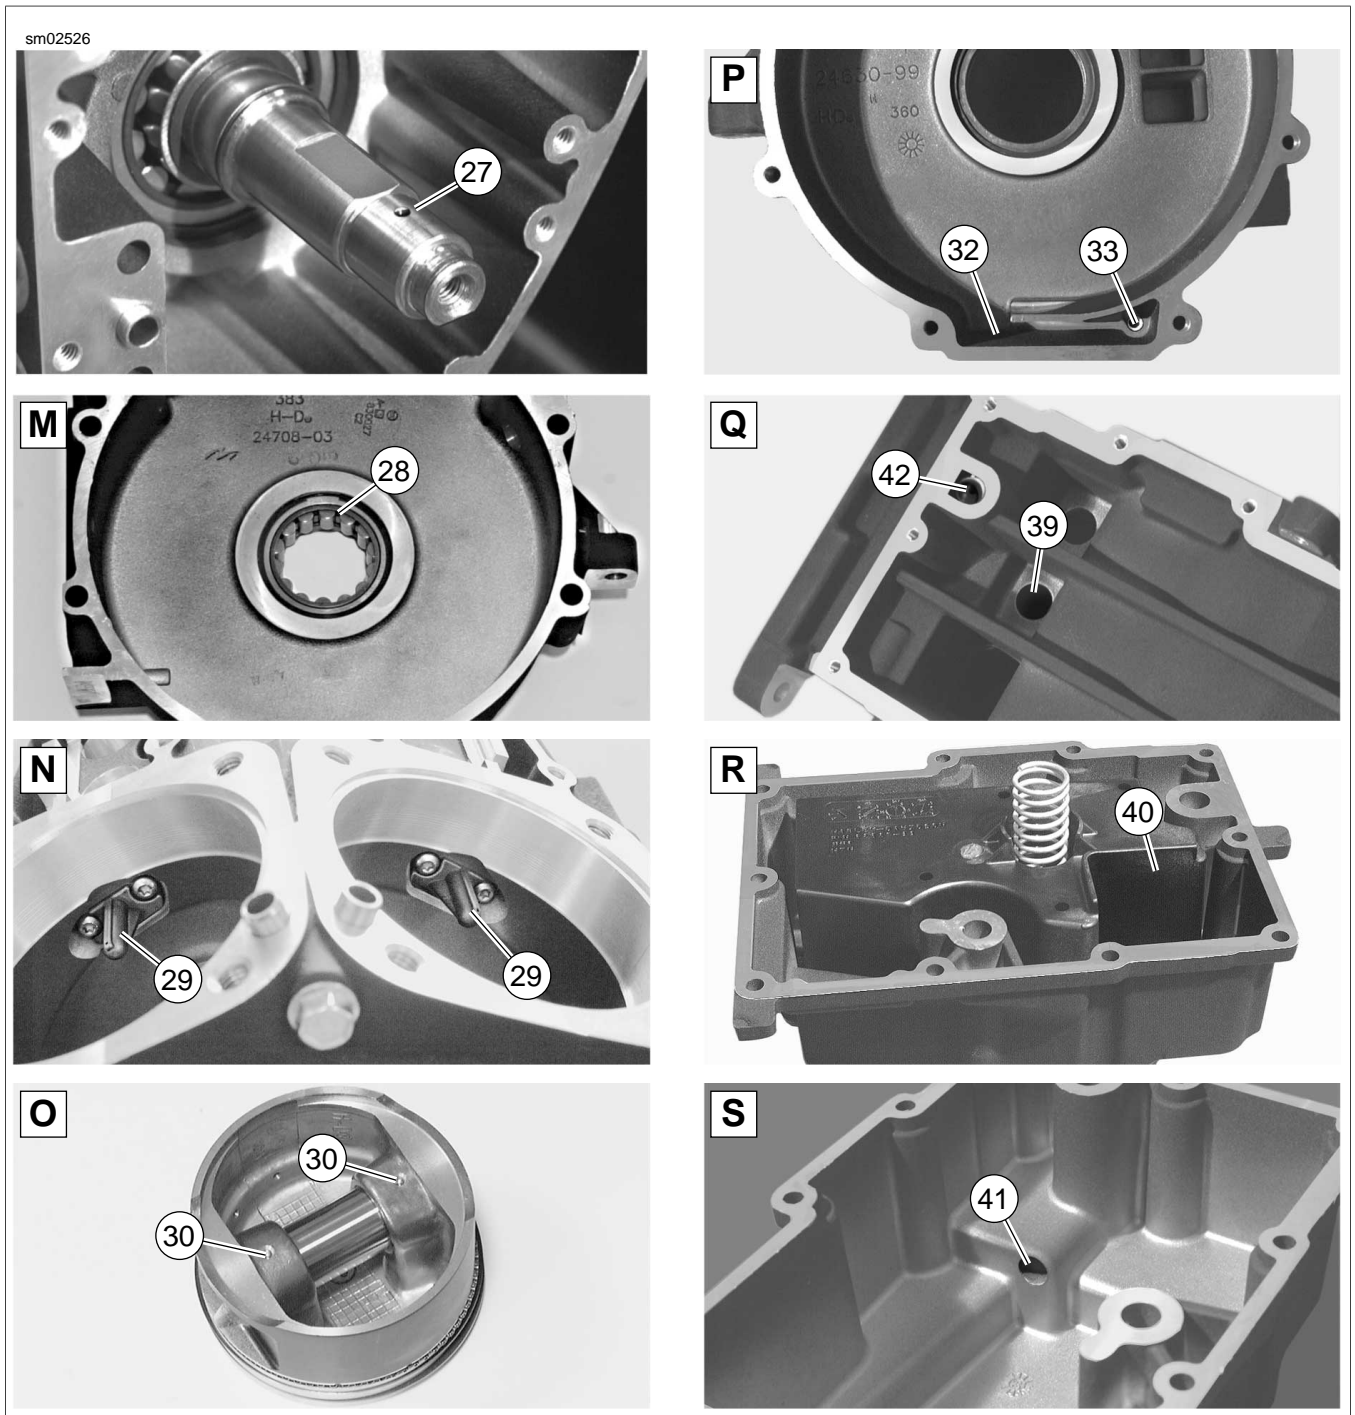

Figure 3-3. Engine Oil Flow - Bottom End
- Bottom end oil flow is shown in Figure 3-3.